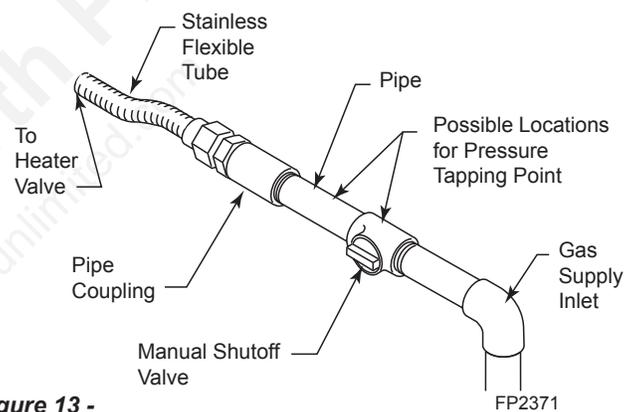

Figure 13 -
4. Anchor the unit to the fireplace/firebox floor using the screws provided. *Figure 13*.
A manual shutoff valve must be installed upstream of the appliance. Union tee and plugged 1/8" NPT pressure tapping point should be installed upstream of the appliance. *Figure 13*